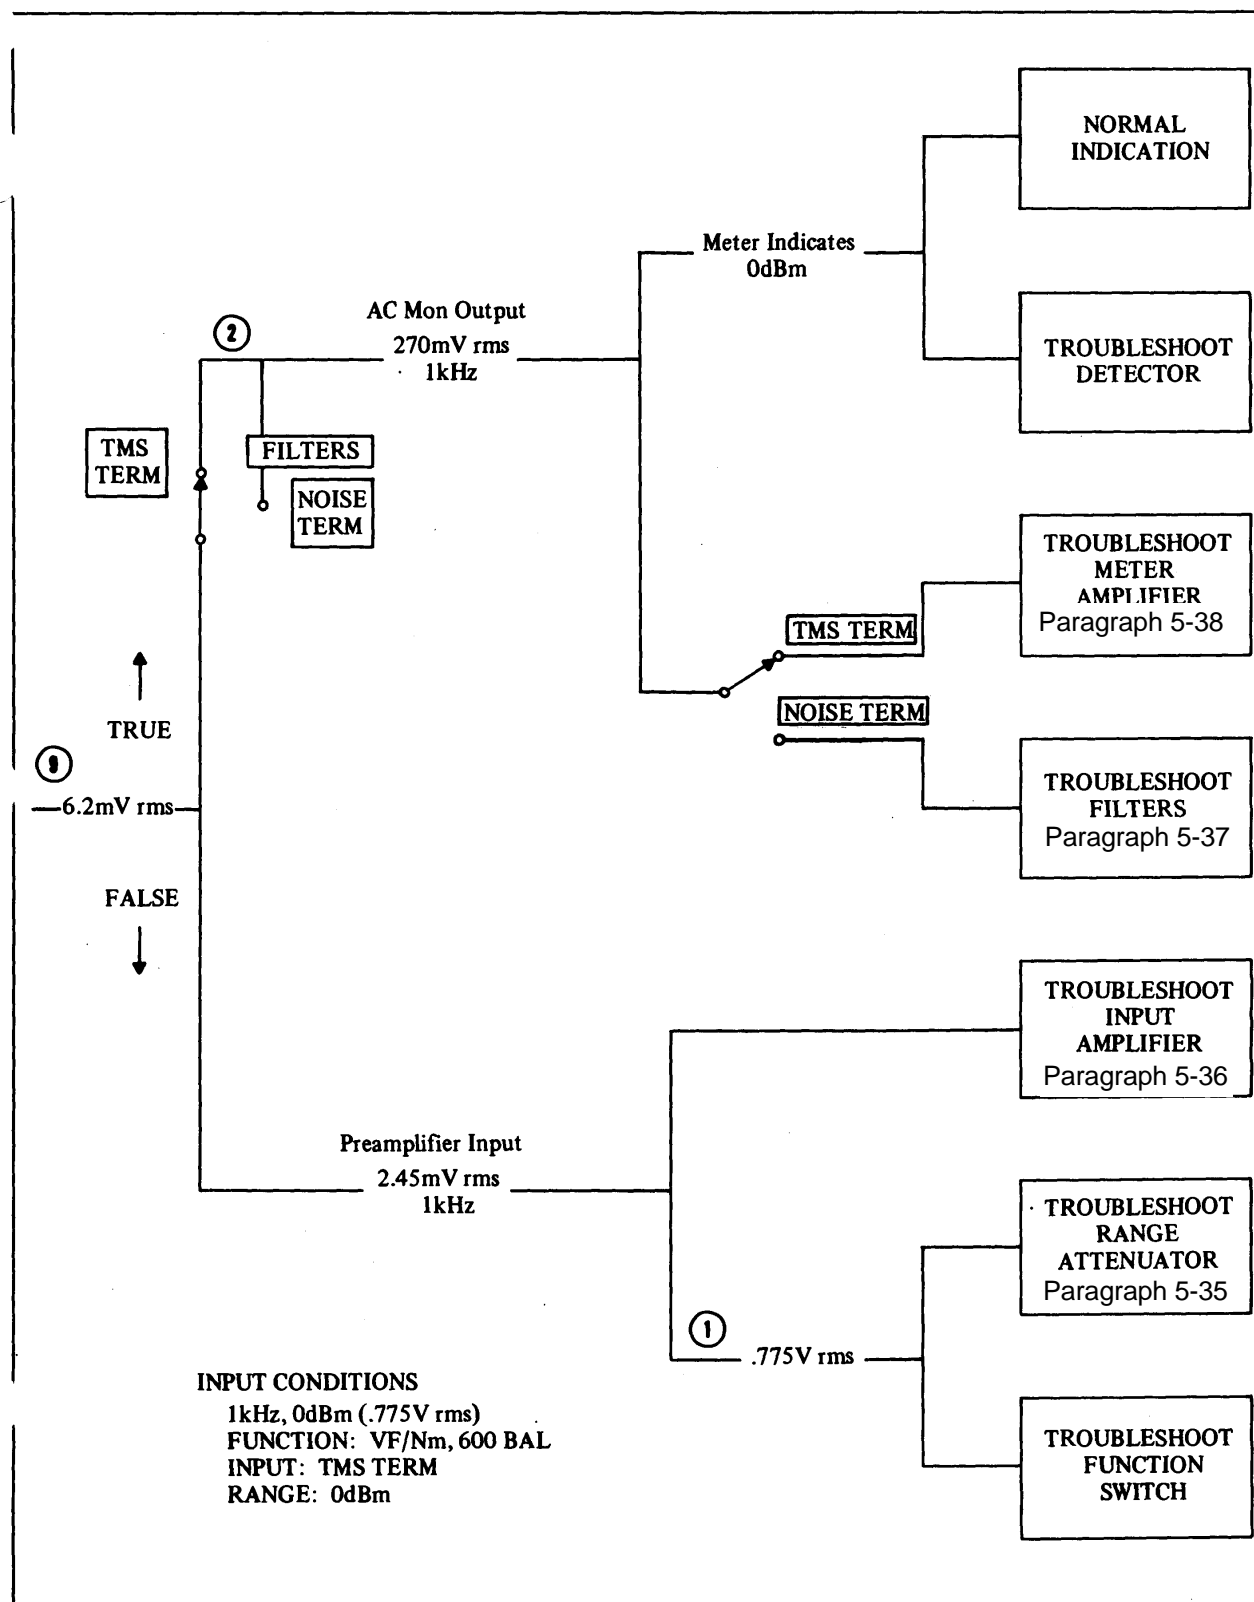

Figure 5-8. Troubleshooting Tree
- a. Troubleshooting Tree - - The troubleshooting tree (Figure 5-8) is based on the half-split method of troubleshooting a set. The trouble can be isolated to a general area or block using this tree. Once the trouble has been isolated to an area, a reference is given. to a paragraph where more specific information can be found.
- Inject a 1kHz, 0dBm signal (.775V rms) into the 3555B and set the INPUT switch to TMS TERM, RANGE to 0dBm and the FUNCTION to VF/Nm, 600 BAL. Measure the signal at the input of the meter amplifier (XA3 pin 9). The signal level should be 6.2mV rms. If not the malfunction is ahead of the meter amplifier (refer to troubleshooting tree, Figure 5-8).